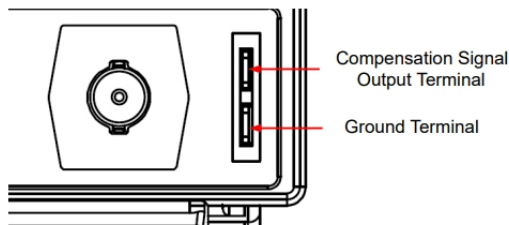

Figure 5.4 Using the Compensation Signal
2. Connect the ground alligator clip of the probe to the "Ground Terminal" as shown in Figure 5.4 .
3. Use the probe to connect the input terminal of CH1 and the "Compensation Signal Output Terminal" of the probe, as shown in Figure 5.4 .